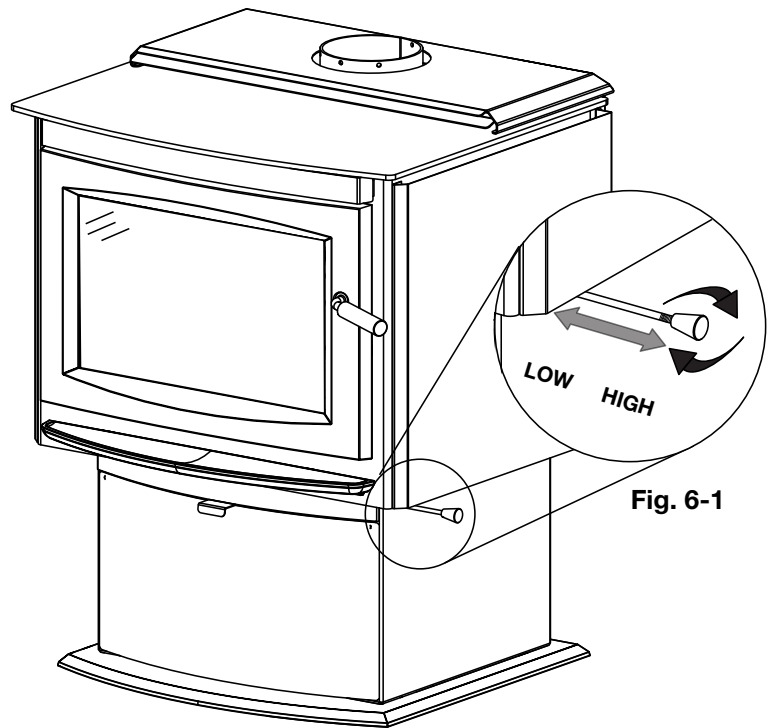

Fig. 6-1
Before adjusting the air control, install the knob (supplied) by screwing it onto the end of the air control rod (**Fig. 6-1**).
**Pushing the air control all the way in reduces the temperature.** The draft can be adjusted from low to high by moving the handle in and out (**Fig. 6-1**).